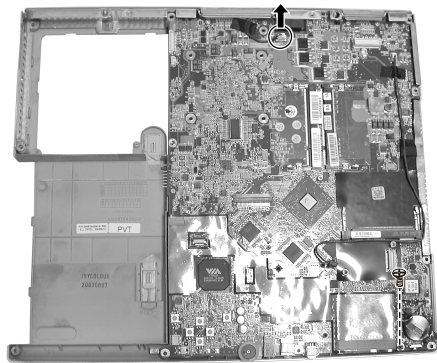

Figure 2-30 Unscrew one screw and disconnect one cord
8. Unscrew one screw and disconnect fan's cord. (Figure 2-30)